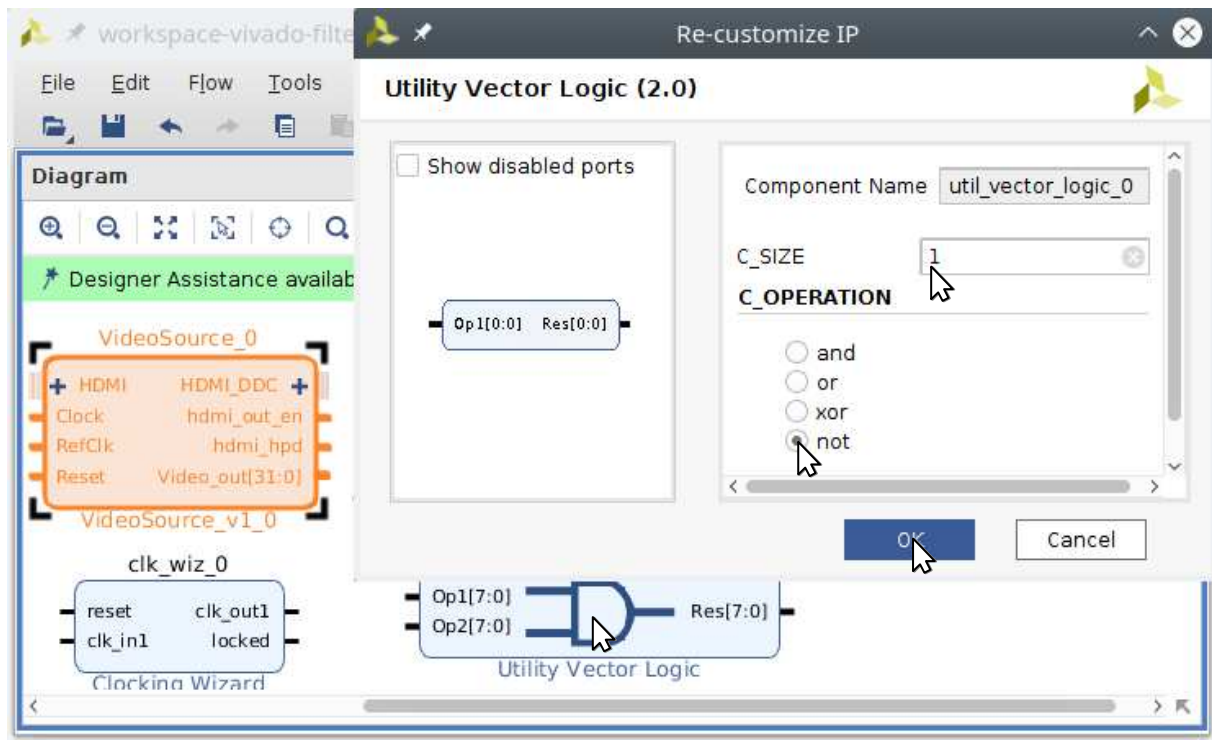

Figure 40: Re-customized “Utility Vector Logic” IPB to be a one bit inverter
- o) Thus, double click on the “Utility Vector Logic” IPB to bring up its customization dialog as shown in Figure 40. Change **C_SIZE** to “1” and **C_OPERATION** to “not” to change the “Utility Vector Logic” IPB to be a one bit inverter.